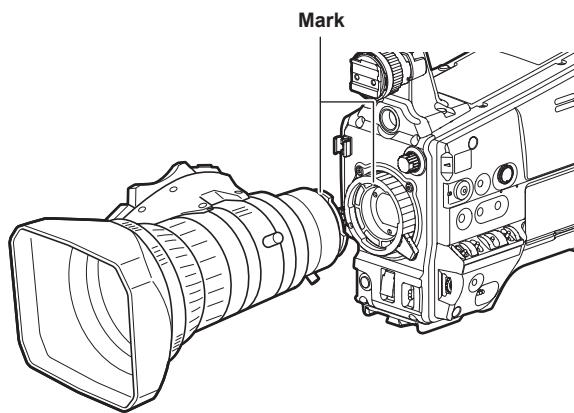

Fig. 2
**2** Align the indentation at the top center of the lens mount with the center mark of the lens to mount the lens. (Fig. 2)